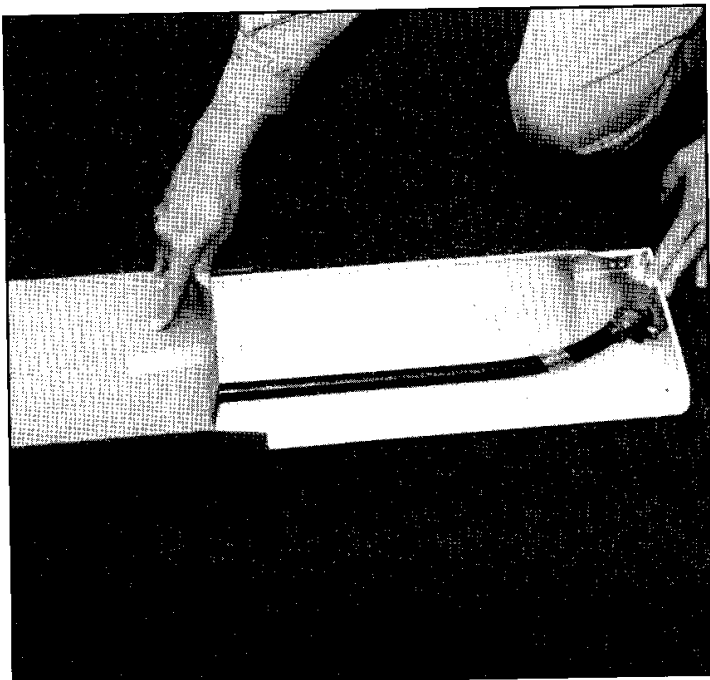

Figure 10
8. Open the Accessory Carton and remove the access panel. Discard shipping materials. Gas dryers include a gas pipe assembly in the carton. (See figures 10 & 11.)